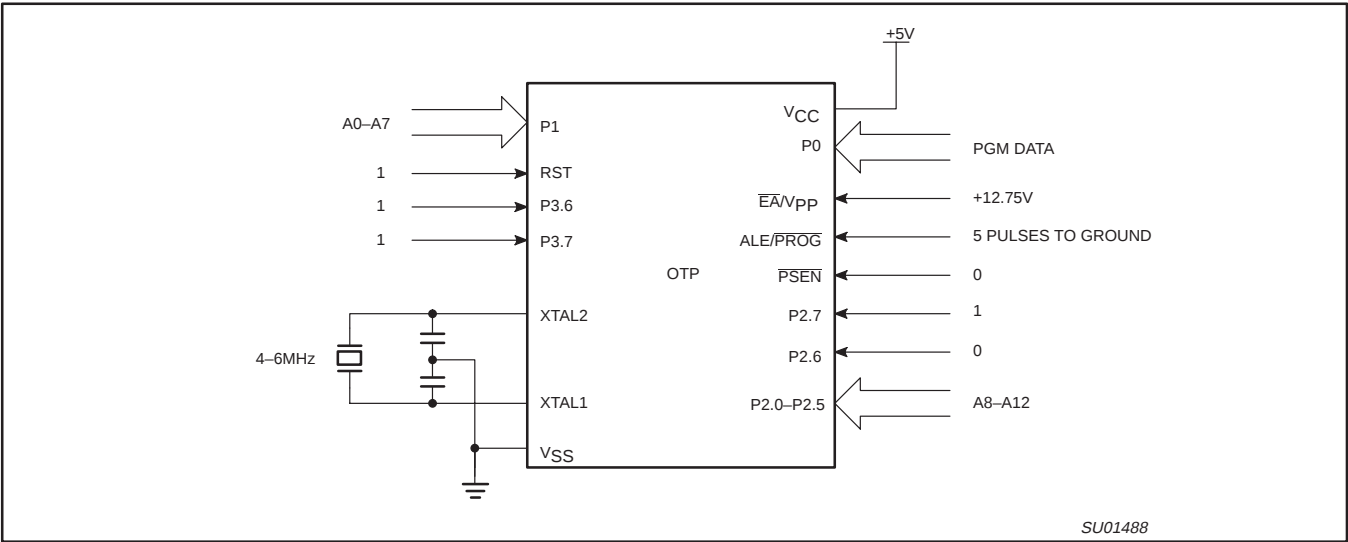
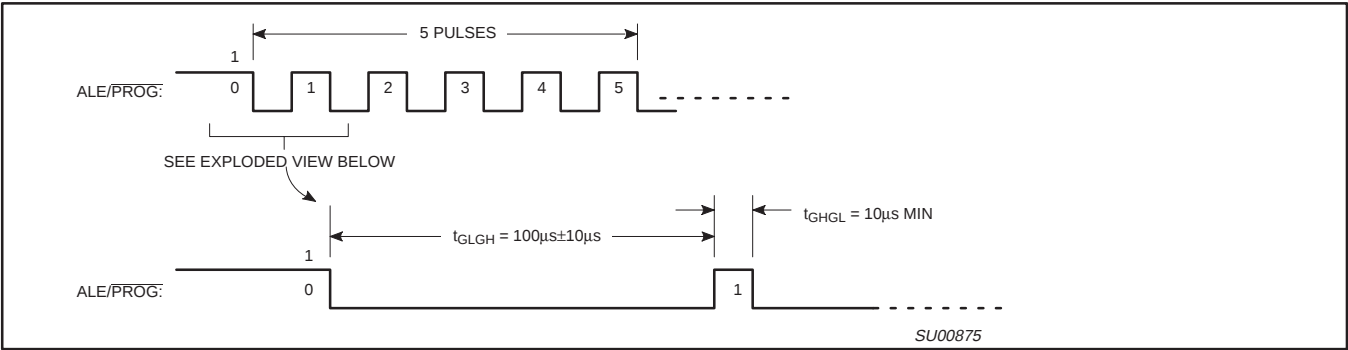
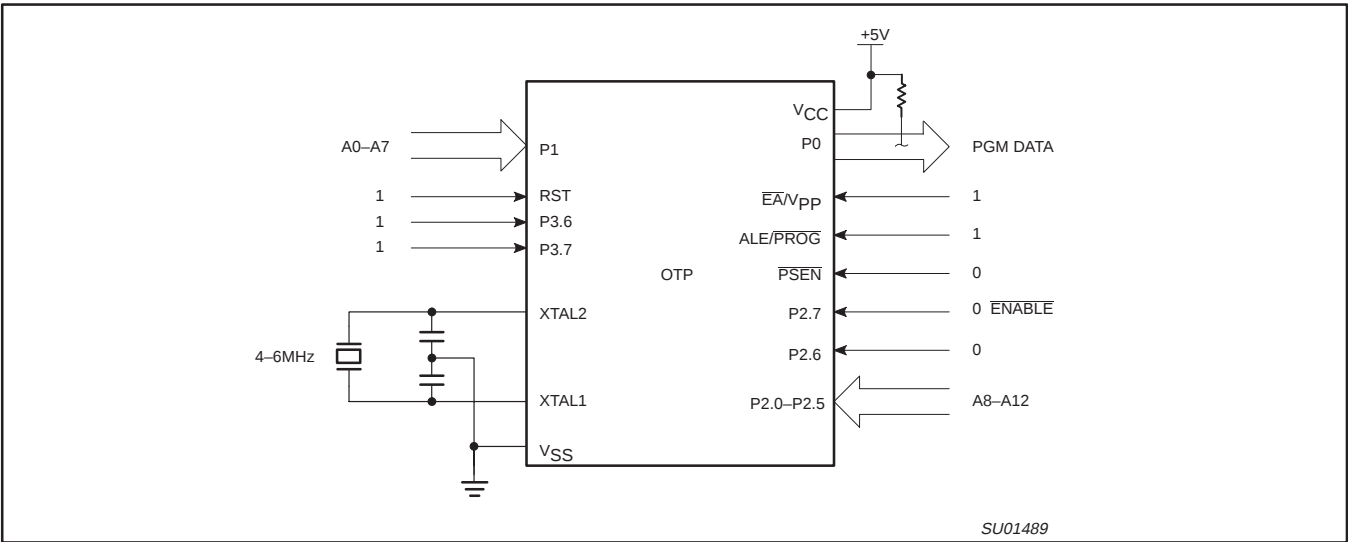

Figure 40. Programming Configuration
Figure 41. $\overline{PROG}$ Waveform
Figure 42. Program Verification
Table 9 shows the logic levels for reading the signature byte, and for programming the program memory, the encryption table, and the security bits. The circuit configuration and waveforms for quick-pulse programming are shown in Figures 40 and 41. Figure 42 shows the circuit configuration for normal program memory verification.
The setup for microcontroller quick-pulse programming is shown in Figure 40. Note that the device is running with a 4 to 6 MHz oscillator. The reason the oscillator needs to be running is that the device is executing internal address and program data transfers.
The address of the EPROM location to be programmed is applied to ports 1 and 2, as shown in Figure 40. The code byte to be programmed into that location is applied to port 0. RST, $\overline{PSEN}$ and pins of ports 2 and 3 specified in Table 9 are held at the 'Program Code Data' levels indicated in Table 9. The ALE/PROG is pulsed low 5 times as shown in Figure 41.
If security bits 2 and 3 have not been programmed, the on-chip program memory can be read out for program verification. The address of the program memory locations to be read is applied to ports 1 and 2 as shown in Figure 42. The other pins are held at the 'Verify Code Data' levels indicated in Table 9. The contents of the address location will be emitted on port 0. External pull-ups are required on port 0 for this operation.
* FOR PROGRAMMING CONFIGURATION SEE FIGURE 40.
FOR VERIFICATION CONDITIONS SEE FIGURE 42.